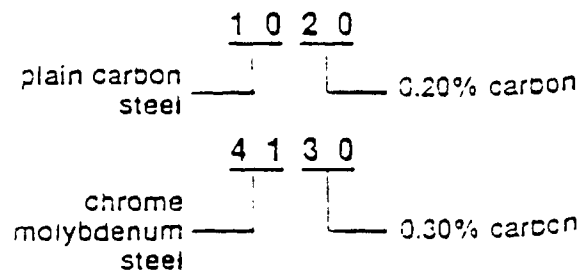

Fig. 130-1. SAE and AISI code numbers.
Two examples of the SAE/AISI numbering system are explained in Fig. 130-1. The series designations and the types of steel which they designate are summarized in Table 130-1.
6. Look at Figure 130-1. In the code number 1020, what do the third and fourth digits tell you? \_\_\_\_\_